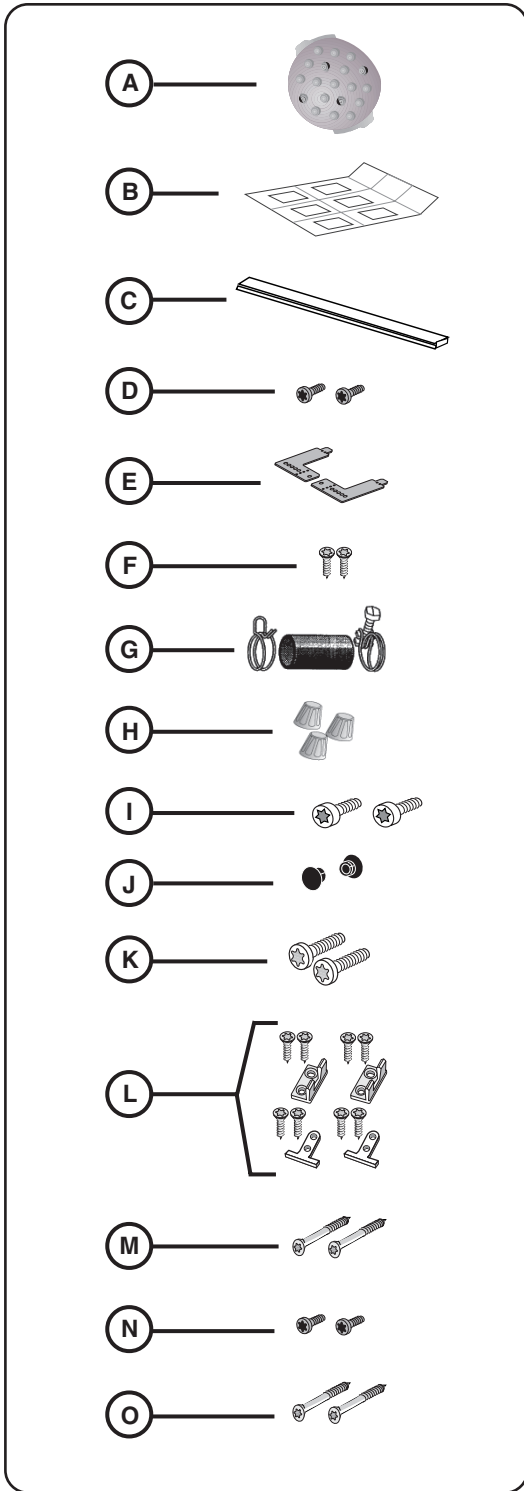

Figure 1
Accessory Parts for your dishwasher will come in one or more plastic bags. Check to make sure that the parts shown in Figure 1 are included with your model (NOTE: Illustrations are not to scale). If any parts are missing, contact your dealer immediately.
- Extra Tall Item Sprinkler (Fig. 1, letter A)
SHI and SHV models also have SHI/SHV Panel Installation Template Sheet (Figure 1, letter B).
SHY66 and SHX99A models also have a Cotton Insulation Strip (Figure 1, letter C).